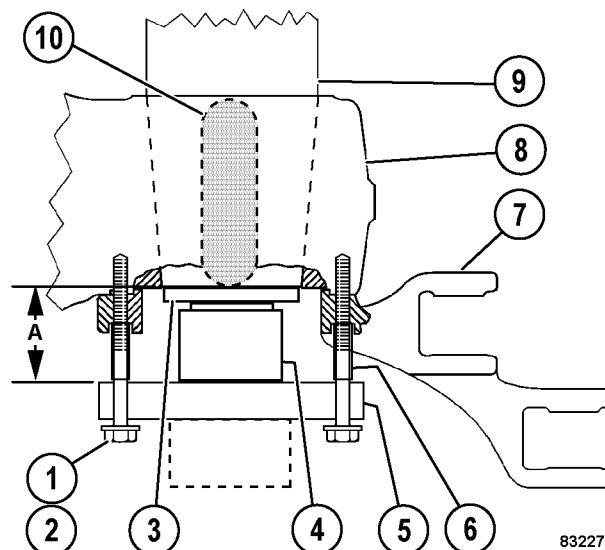

FIGURE 3-5. PULLER TOOL WITH RAM
*NOTE: Older pusher tools (5, Figure 3-5) may have been made with a round tube (shown as a dotted line) welded on one side. The tool can be installed upside down and used with a hydraulic ram as shown.*
Refer to Section M8, Special Tools, for dimensions for fabricating the spindle pusher tool and spacers (6, Figure 3-5). Special cap screws and washers are also required.
16. Locate 16 cap screws (1, Figure 3-5) and washers (2) as specified below:
18. Install pusher tool (5) as shown in Figure 3-5 using the only three cap screws (1), three washers (2) and three spacers (6). The three cap screws must be evenly spaced. Tighten the three cap screws to **68 N·m (50 ft lb)**.
19. Ensure hydraulic ram (4) is completely retracted. Install hydraulic ram with reaction plate (3) on top of the hydraulic ram.
21. Start applying pressure to the hydraulic ram to separate the parts. If the specified maximum force of the hydraulic ram is reached and the tapered parts have not separated, slowly and uniformly apply heat to the spindle as shown (10, Figure 3-5). Heat must be applied in two locations 180 degrees apart. Allow heat to penetrate into the spindle. Reapply heat as required. **Do not exceed 454 °C (850 °F) anywhere on the spindle.**